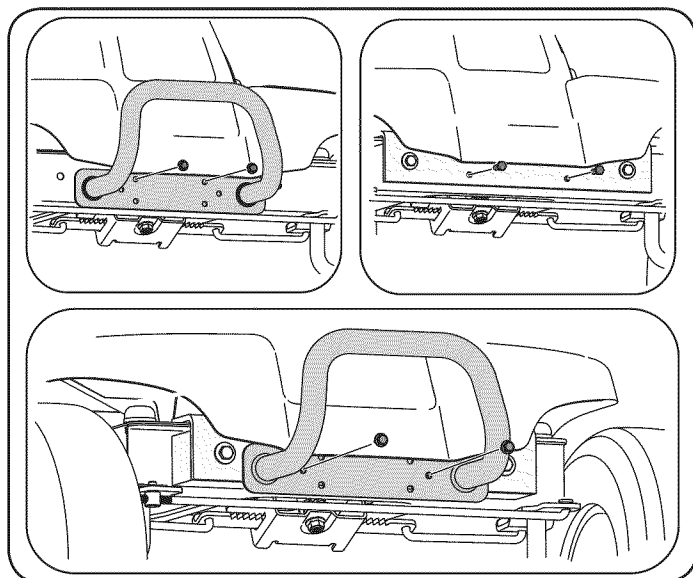

Figure 10
5. Remove the two center bolts on the weight bar and mount the bumper to the weight bar using the hardware just removed. See Fig. 10.